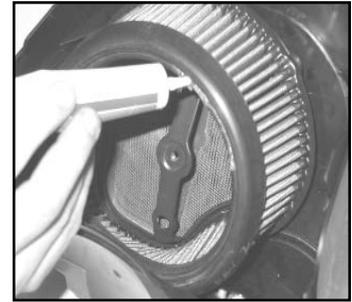

Fig. 3
5. Apply the provided K&N Sealing Grease to the top of the air filter where XStream Top® will sit. (Fig. 3)